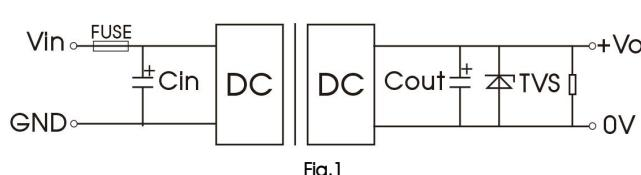

Fig.1
- (1) We recommend using the recommended circuit shown in Fig.1 during product testing and application, otherwise please ensure that at least a 220μF electrolytic capacitors is connected at the input in order to ensure adequate voltage surge suppression and protection.
- (2) We recommend increasing the value of Cin and pay attention to the unstable input voltage if the product input side is paralleled with motor drive circuit and/or larger energy transient circuits, to ensure the stability of input terminal and avoid repeatedly start-up problems due to input voltage lower than under-voltage protection point.
- (3) We recommend increasing the output capacitance with limited to the capacitive load specification and/or increasing the voltage clamping circuit(such as TVS) if the output terminal is inductive device such as relay or a motor, to ensure adequate voltage surge suppression and protection.
- (4) Input and/or output ripple can be further reduced by appropriately increasing the input & output capacitor values Cin and Cout and/or by selecting capacitors with a low ESR (equivalent series resistance). Also make sure that the capacitance is not exceeding the specified max. capacitive load value of the product.